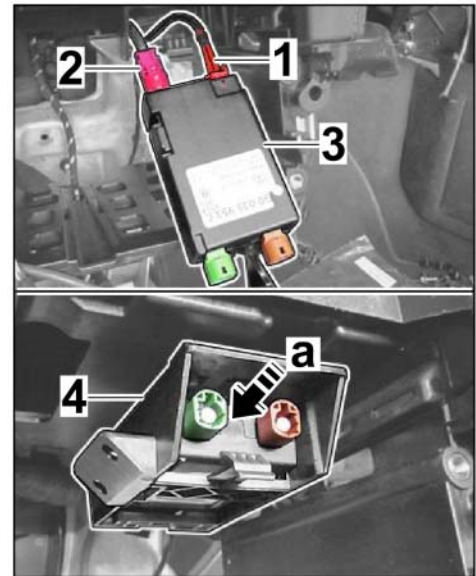

Figure 25
- 5.5.2 Push USB/iPod control unit into the USB/iPod control unit holder ⇒ *Figure 25-4-* (⇒ *Figure 25-a-*) until the USB/iPod control unit engages securely.